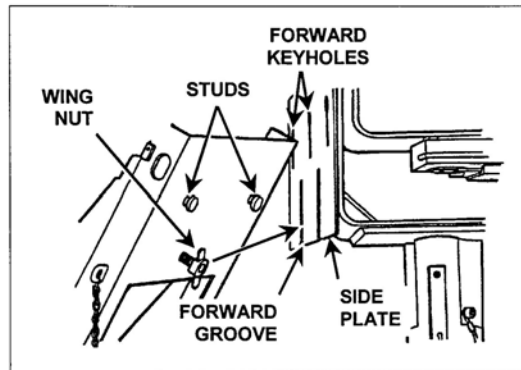

Figure 8. Attach the Ammunition Can Mounting Bracket Assembly
5. Attach the ammunition can mounting bracket assembly (Figure 8).